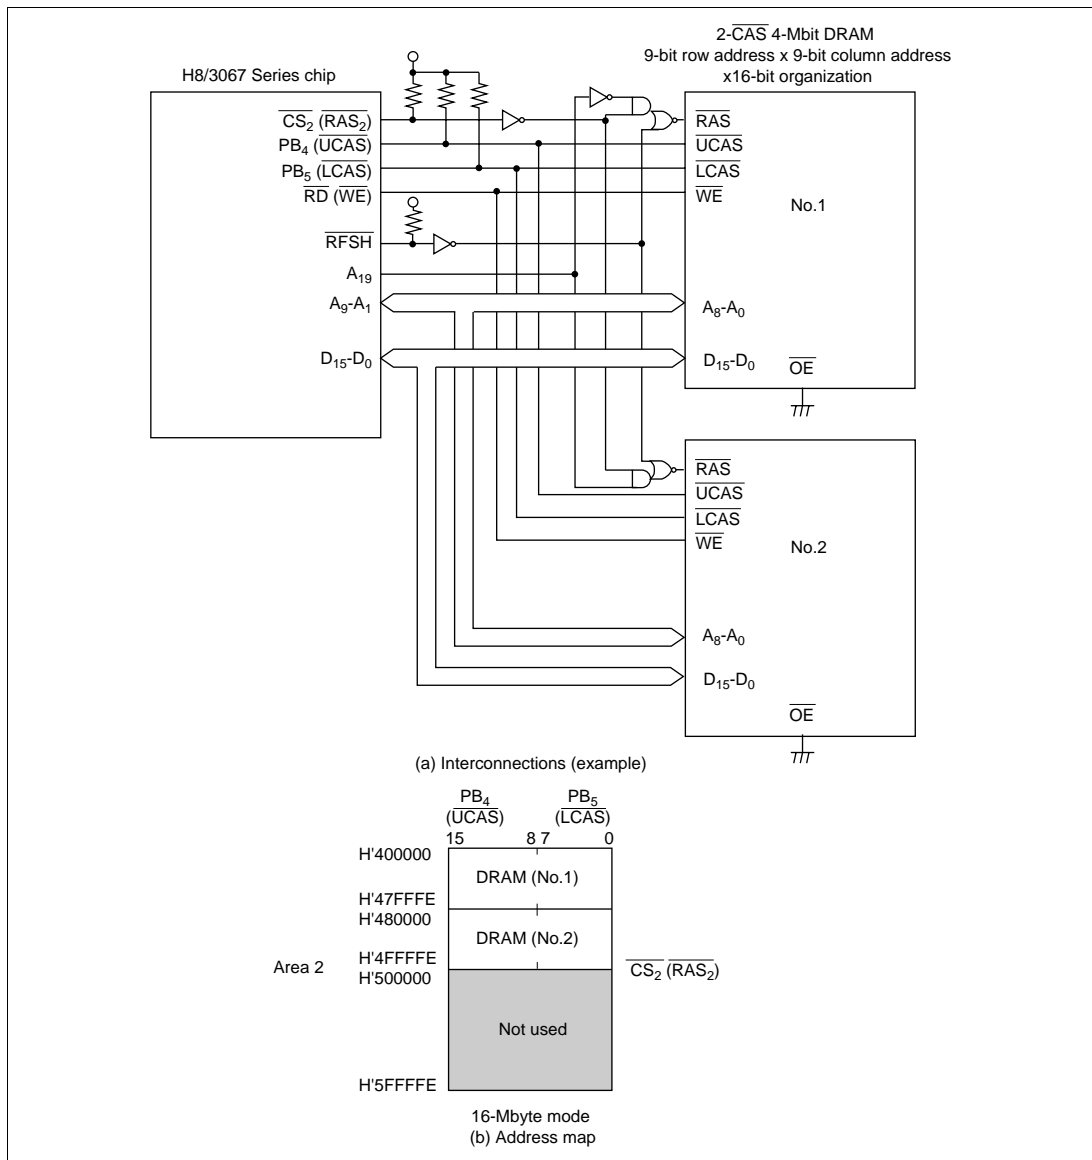

Figure 6.33 Interconnections and Address Map for 2-CAS 4-Mbit DRAMs with \times 16-Bit Organization
- Figure 6.33 shows typical interconnections when using two 4-Mbit DRAMs, and the corresponding address map. The DRAMs used in this example are of the 9-bit row address \times 10-bit column address type. In this example, upper address decoding allows multiple DRAMs to be connected to a single area. The RFSH pin is used in this case, since both DRAMs must be refreshed simultaneously. However, note that RAS down mode cannot be used in this interconnection example.